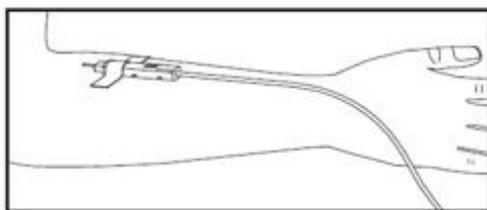

Figure 1
8. When good blood flow is established, slide the DONORCARE™ needle guard over the needle hub into the engaged position. Leave the front third of the needle hub exposed for access. Stabilize the front of the needle guard to arm with tape (see Figure 1).